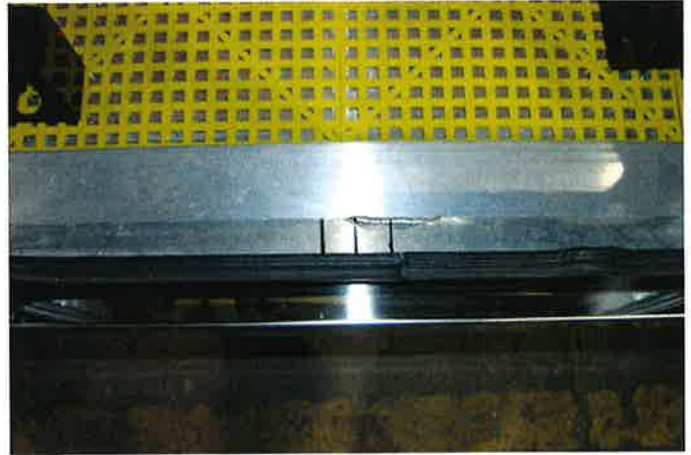

FIGURE 3
- (c) Measure 1" on both sides of center mark. See Figure 3.